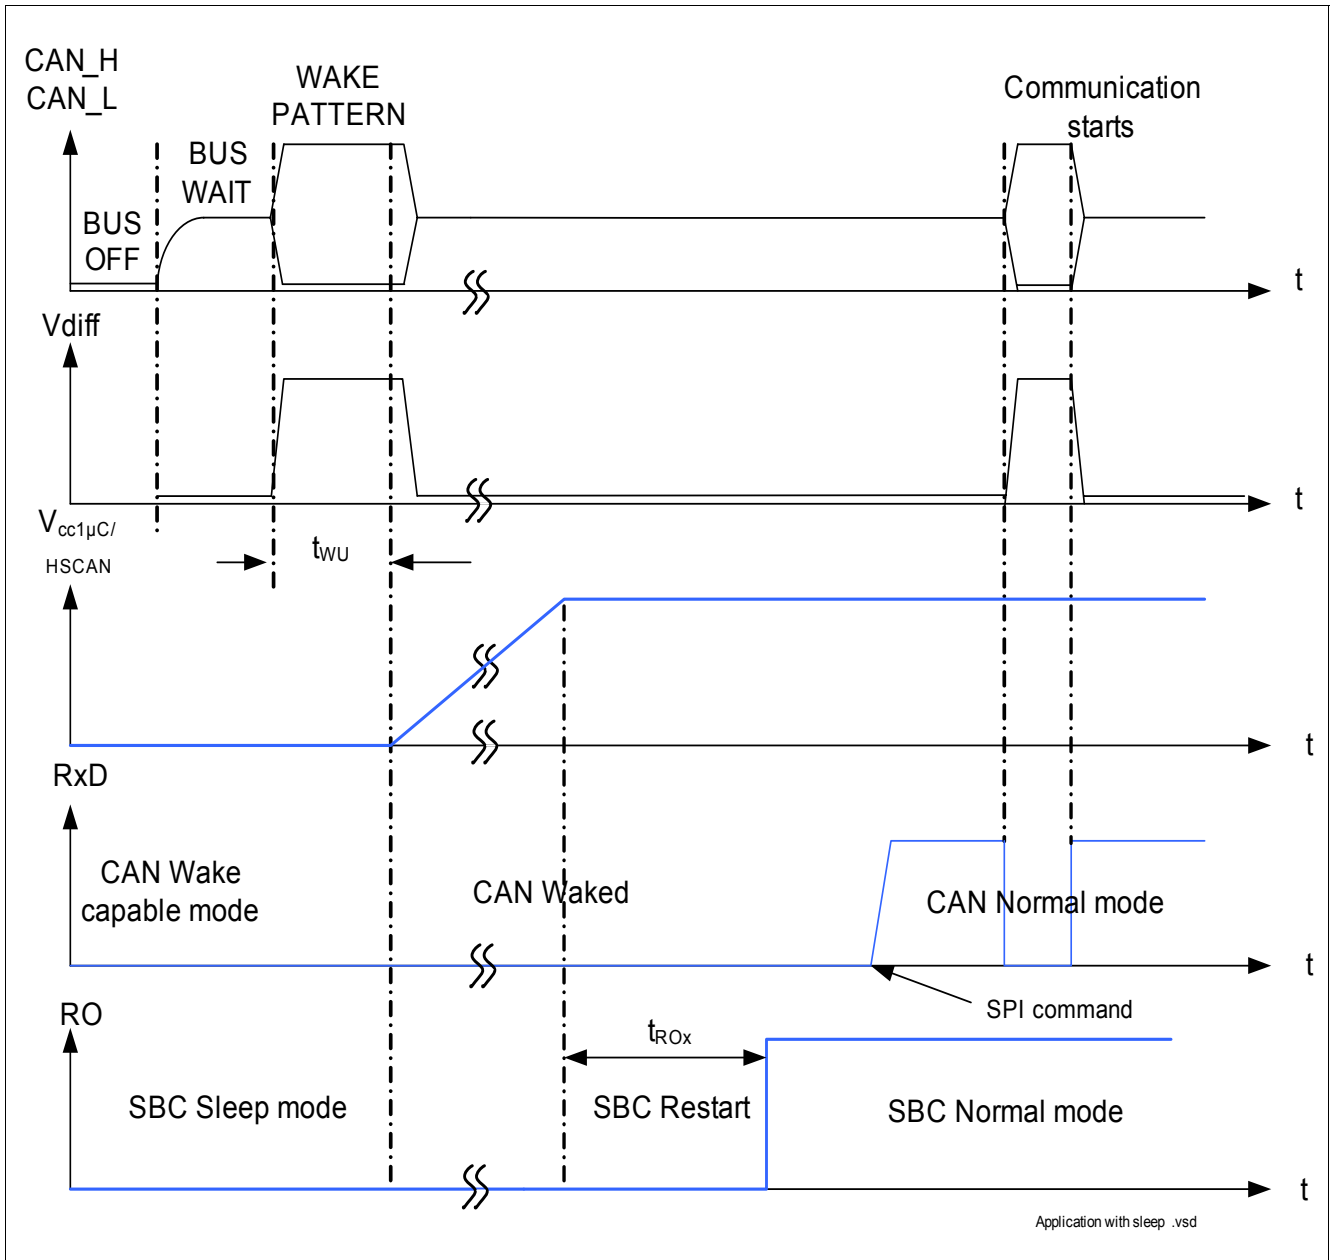

Figure 13 Timing during Transition from Sleep to Normal Mode
Wake-up is possible via a CAN message (filtering time $t > t_{WU}$), it automatically transfers the SBC into the SBC Restart Mode and from there to Normal Mode the RxD pins in set to LOW, see Figure 13. The microcontroller is able to detect the low signal on RxD and to read the wake source out of the “Wake Register Interrupt” register (000) via SPI. No Interrupt is generated when coming out of Sleep Mode.
In SBC Sleep Mode, a wake-up on the CAN cell will set the SBC to Restart Mode automatically if the CAN Wake Capable Mode of the SBC is selected via SPI. **Figure 13** shows the typical timing.